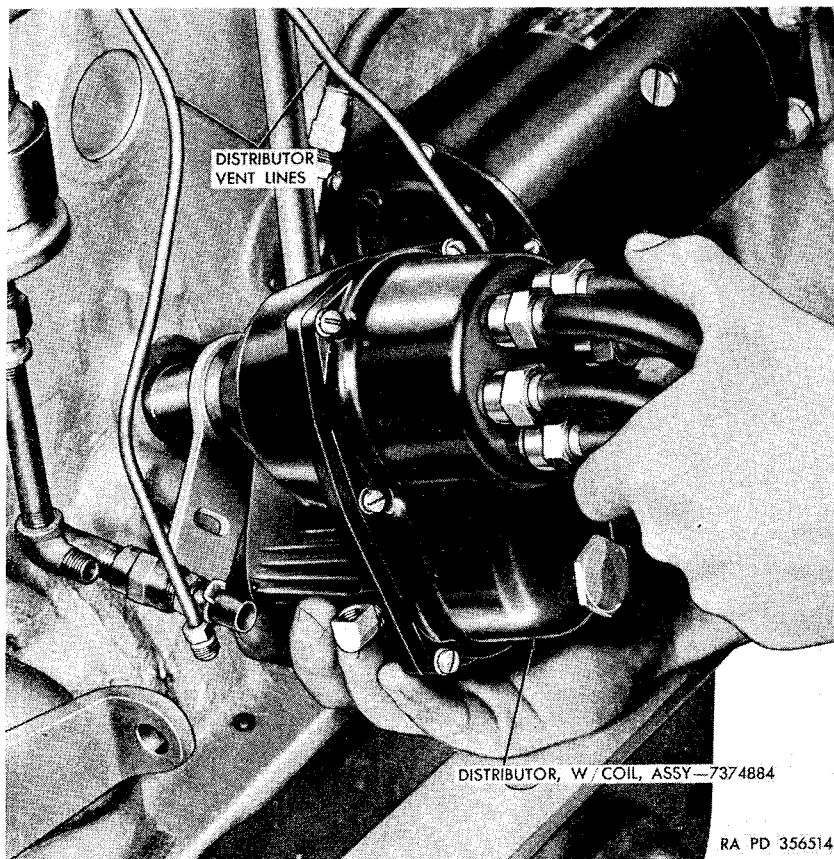

Figure 21. Removing distributor assembly.
- (3) Remove bolts securing generator to mounting bracket and remove generator.
*c. Distributor Assembly (fig. 21).*
- (1) Before disconnecting secondary cables from spark plugs, scribe a mark on the distributor housing at the No. 1 spark plug cable terminal, which will facilitate assembly as the firing order is 1-5-3-6-2-4 clockwise. Disconnect secondary cables from spark plugs.
- (2) Disconnect air vent lines at distributor.
- (3) Remove distributor adjusting lock screw.
- (4) Pull distributor from cylinder block.